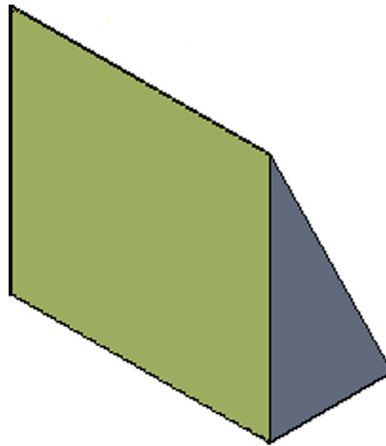

FIGURE 23.19
Step 4. Drag your mouse up (or enter a value) and the wedge shape is automatically extruded, as seen in Figure 23.19.